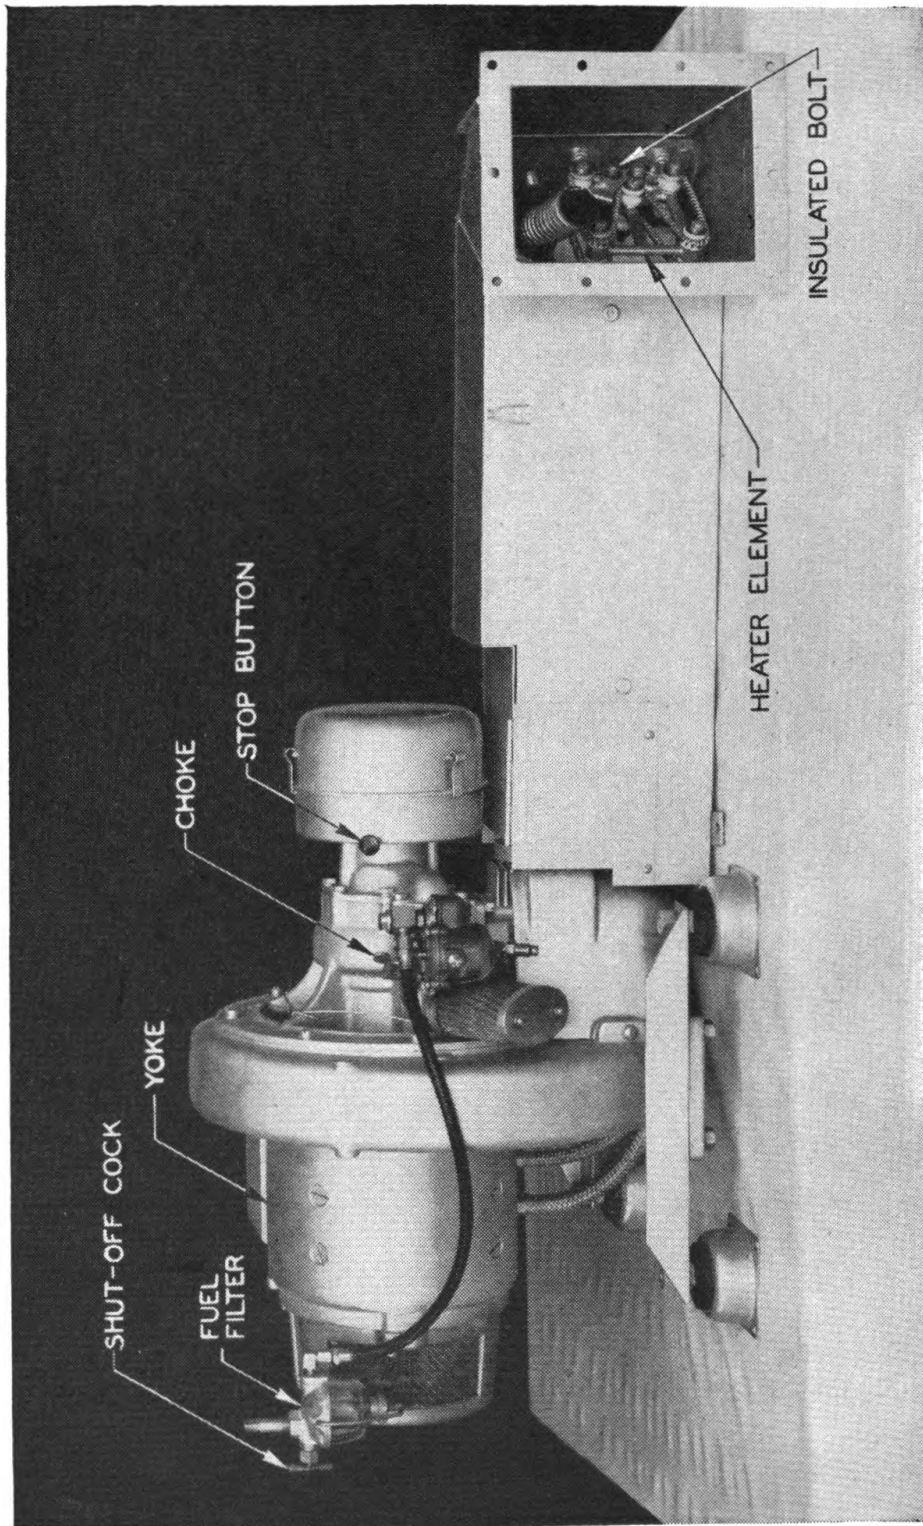

FIGURE 2.—Auxiliary generator model HRH-28—left side.
(2) Open shut-off cock on fuel filter beneath the fuel tank (fig 2). Full counterclockwise direction is open.
*b. Cold weather starting—cold engine* (below 50° F.).—(1) Close the carburetor choke (fig. 2). (The choke is open when the lever is against the stop pin.)
*e. To stop engine.—*Press the red stop button (fig. 2), and hold firmly until the engine stops. Close the fuel line shut-off cock beneath the fuel tank (fig. 2) (closed when in full clockwise position).
- (1) Fill tank with fuel and oil mixture.
- (2) Open shut-off cock.
- (3) Choke—if required.
- (4) Depress starting button or start manually.
- (5) Press red stop button for stopping.
- (6) Close fuel shut-off cock.